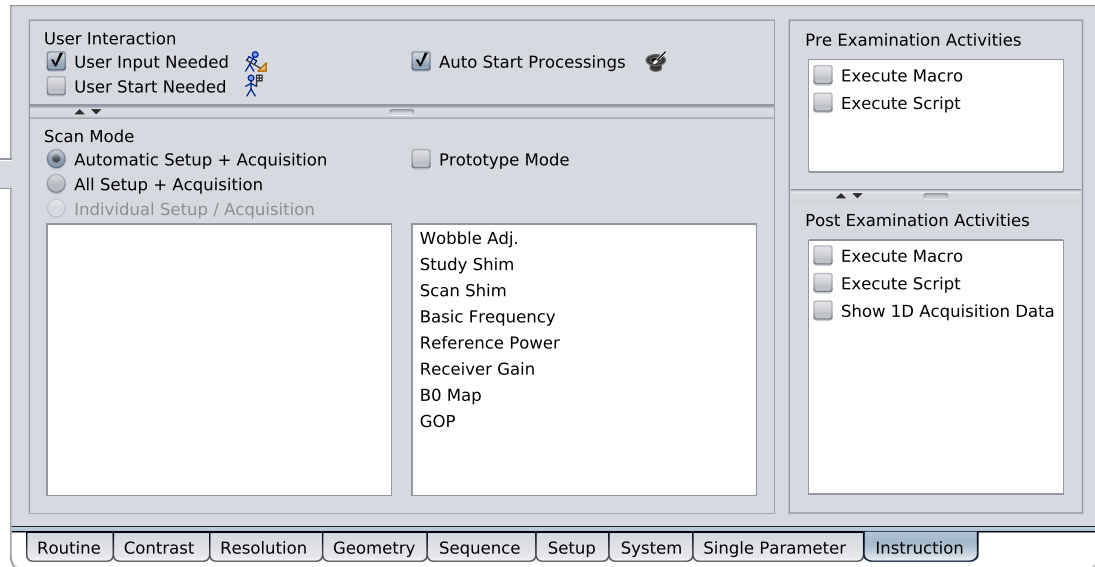

Figure 1.44: Instruction Card
- The Instruction tab (see [Figure 1.44 \[▶ 61\]](#)) is raised.